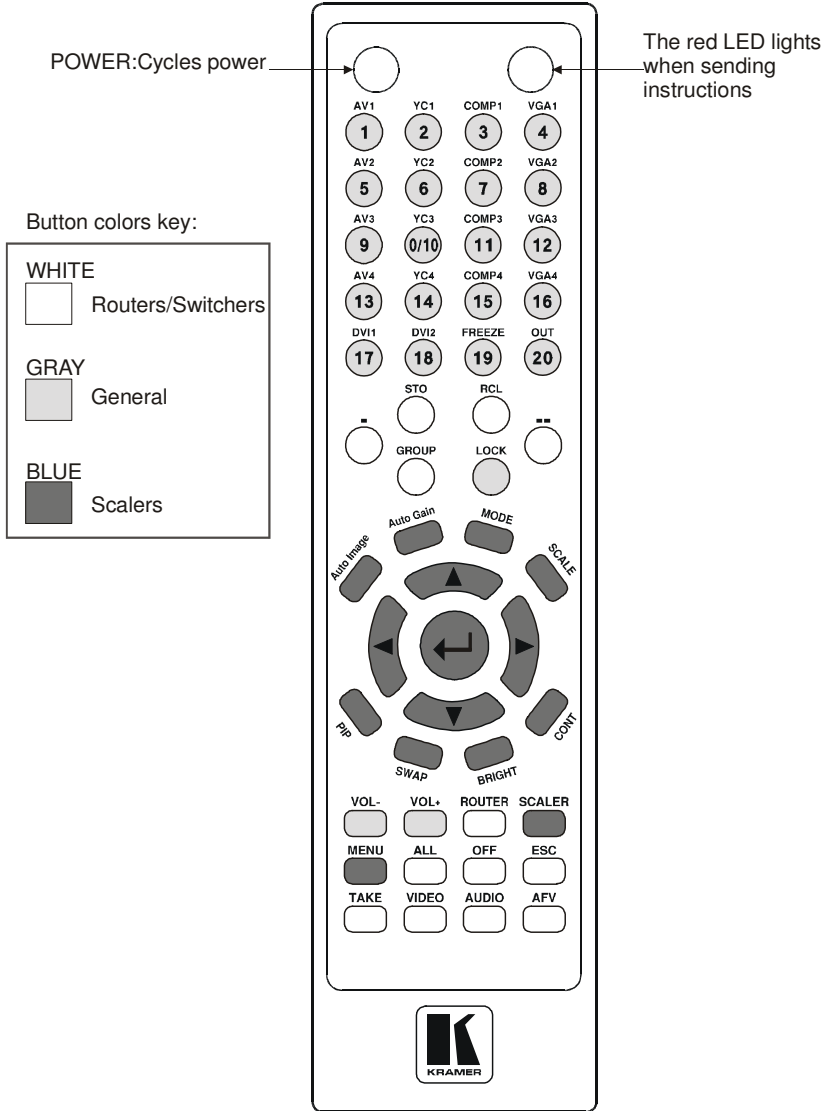

Figure 1: RC-IR2 Remote Control Transmitter
| Figure 1: RC-IR2 Remote Control Transmitter | 3 |
- Is a hand held infrared remote control transmitter¹ that includes the protocols of all Kramer devices and is programmable to control any Kramer machine (see Figure 1)
Figure 1 and Table 1 define the **RC-IR2** remote control transmitter: